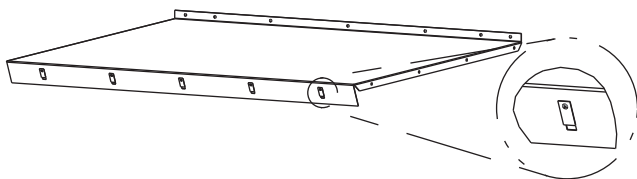

Fig. 27 — Top Hood with Speed Clips
4. Attach speed clips (provided) to hood top. Engagement section of the clip faces inside hood. See Fig. 27.